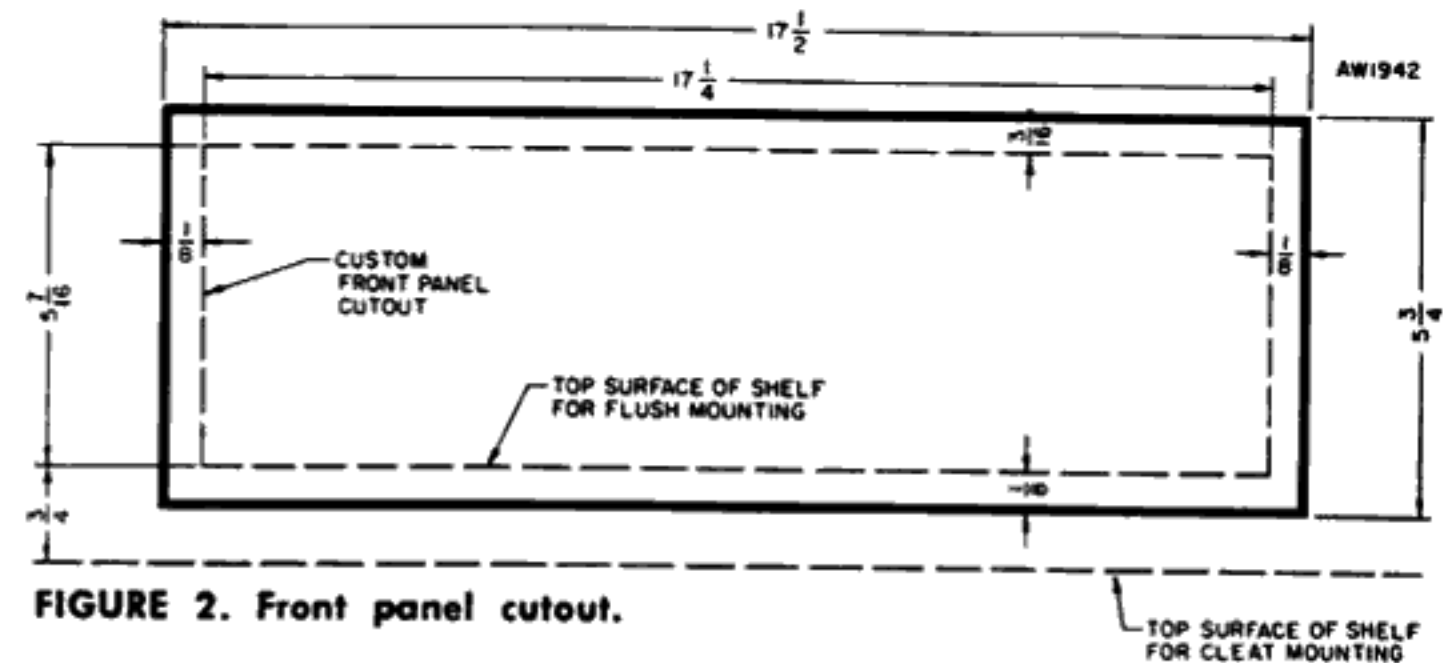

FIGURE 2. Front panel cutout.
- 3 — Saw a cutout through the front panel of your cabinet to the dimensions shown in Figure 2. The distance between the top surface of the mounting board and the bottom of the cutout must be the same as the height of the cleats.
- 3 — Saw a rectangular cutout through the front panel of your custom cabinet to the dimensions shown in Figure 2. Note that the bottom of the cutout coincides with the top of the mounting shelf, since cleats are not used in this installation.
1—Determine the position in which you wish to mount the receiver. After checking beneath the top panel of the cabinet for any obstruction, make a cutout in the top panel, as shown in Figure 2.